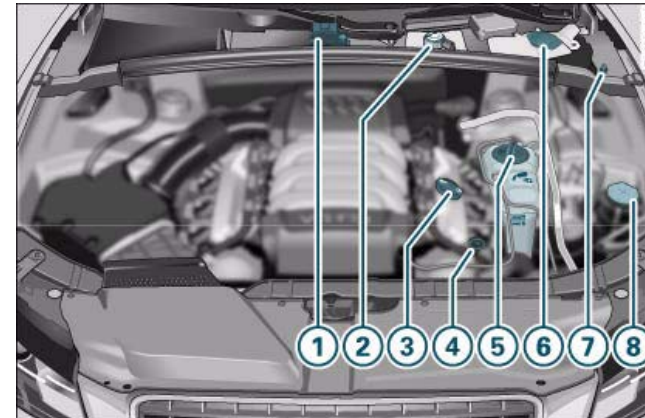

Fig. 223 Typical locations of fluid containers, engine oil dipstick and engine oil filler cap
① Jump-start terminal (+) under a cover	241, 266
② Brake fluid reservoir (☉)	238
③ Engine oil filler cap (🔑)	234
④ Engine oil dipstick (orange)	234
⑤ Radiator expansion tank (♁)	236
⑥ Windscreen washer container (🌀)	242
⑦ Jump-start terminal (-) with hexagon head	241, 266
⑧ Hydraulic fluid reservoir for power steering	201 ▶
The positions of the engine oil filler cap and the engine oil dipstick ⇒ *page 232*, fig. 223 (items ③ and ④) may be different on some engine versions. ■